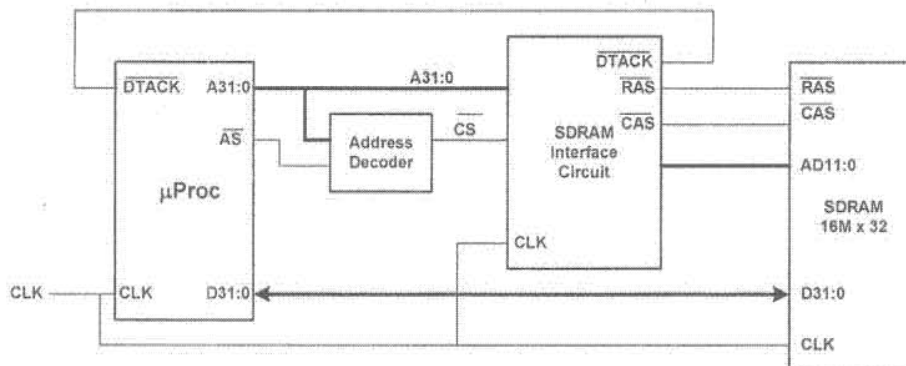
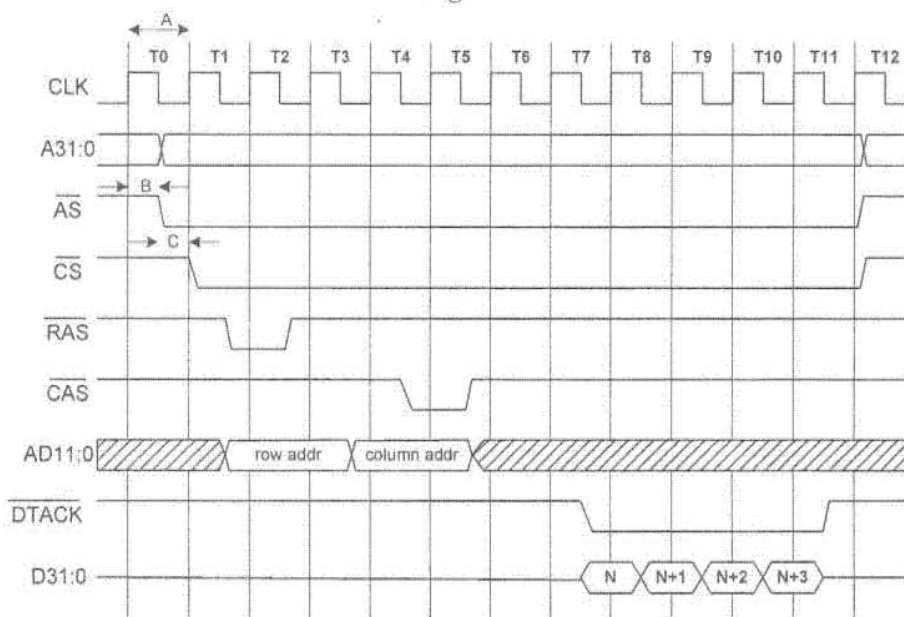

Figure 4.1
Figure 4.2
4. Figure 4.1 shows a microprocessor connected to a 16M x 32 bit SDRAM module through an address decoder and an interface circuit. The timing of the microprocessor and the SDRAM for reading a burst of four memory words is shown in Figure 4.2. The address bus A31:0 becomes valid and the address strobe signal \overline{AS} is asserted at time B after the rising edge of the clock signal CLK during the clock cycle T0. The period of the clock is A. At time C after \overline{AS} is asserted, the address decoder circuit produces a chip select signal \overline{CS} , which is asserted low for addresses in the range \$00000000 to \$00FFFFFF provided that \overline{AS} is also low. The row address strobe signal \overline{RAS} and the column address strobe signal \overline{CAS} are asserted by the SDRAM interface circuit for one clock cycle on the falling edge of the clock during T1 and T4 respectively. The data from the SDRAM becomes valid just before the third clock cycle after \overline{CAS} is asserted.
Design the address decoder and the SDRAM interface circuit to generate \overline{CS} , \overline{RAS} , \overline{CAS} , \overline{DTACK} and the memory address bus signals $AD11:0$ where the output timing is as specified in Figure 4.2. State the relationship between the time periods A, B and C, and any other constraints or assumptions under which your design is valid.